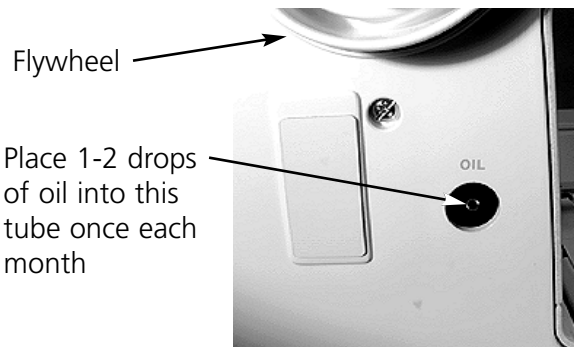

Figure 6-6
3. Below the flywheel, remove the plastic cap and place 1-2 drops of lubricating oil in the tube shown in Figure 6-6 once every month. Replace the plastic cap when done.